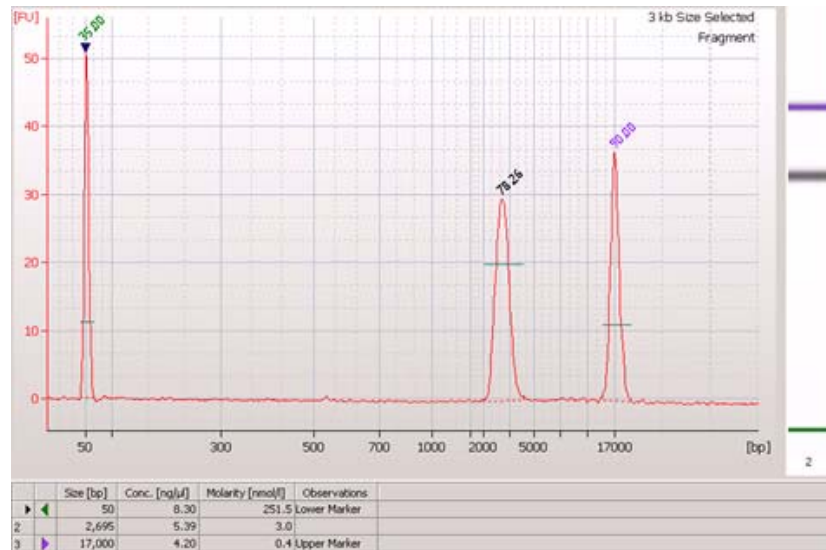

Figure 18 Agilent Profile of Purified 2.5 kb Size-Selected Sample
11. Check the size distribution and quantify the purified DNA using an Agilent Bioanalyzer as shown in Figure 18.
Figure 18 shows an Agilent 2100 12000 LabChip profile of a purified size-selected sample. 1 μ l of 150 μ l the sample was loaded on the LabChip. The calculated concentration of this sample is 5.39 ng/ μ l, giving a total of 808 ng of size-selected DNA.